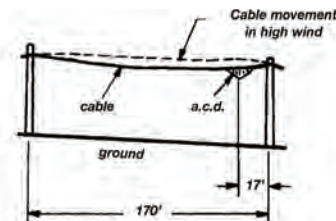
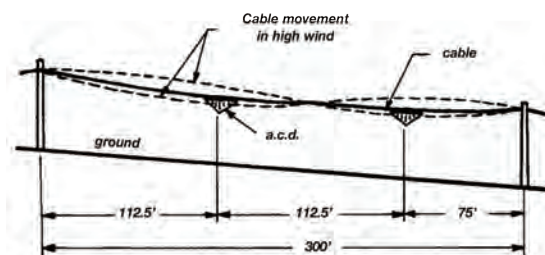

Fig. 3 – steep grade – 125'-170' spans
Fig. 4 – steep grade – 170'-300' spans
**Steep Grade** – Locate one-tenth total span length from pole at lower level on 125-170 ft. spans. (Fig 3). On spans 170-300 ft., two ACDs are required. Locate one at one-fourth the total span length from lower pole. Locate second ACD halfway between first ACD and uphill pole. (Fig. 4).